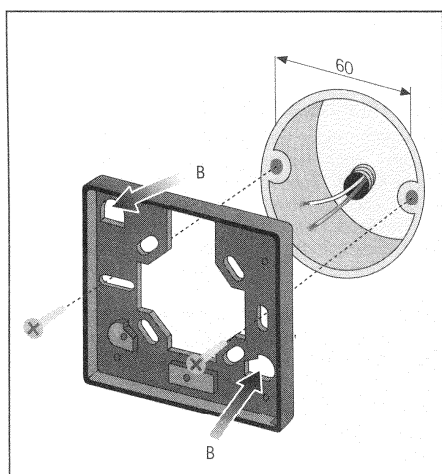

fig.7 - εικ.7
A) In case the thermostat shall be installed either in a round built-in box (having distance between centres equal to 60mm), or on an uneven wall surface or in other particular locations, it is recommended to use a sub-base fitting (see paragraph "Optional Accessories"). Fix the fitting to the wall through two holes other than the ones marked as B-B, which are exclusively provided for the thermostat installation. (fig.7)